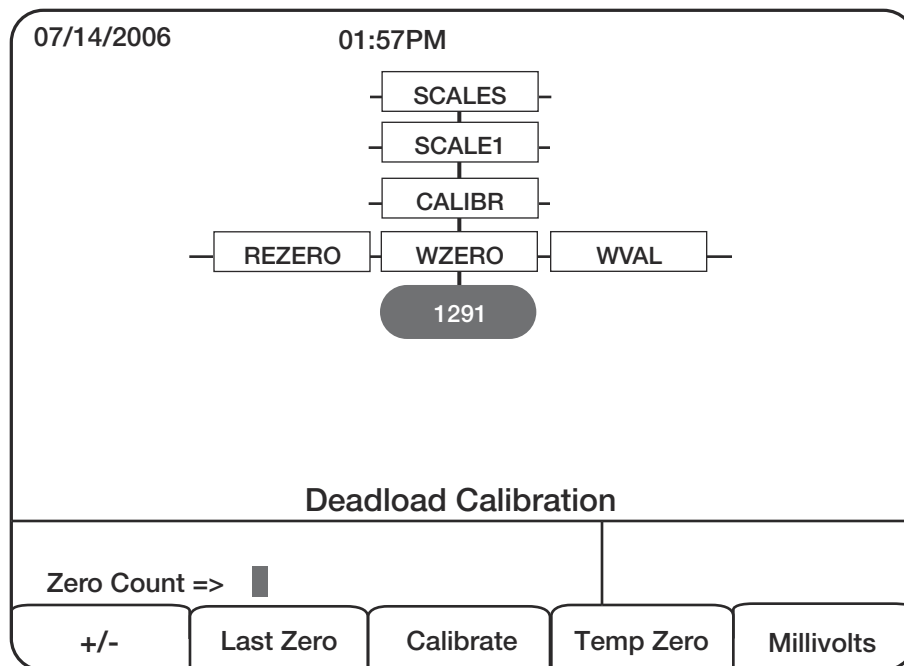

Figure 3-6. WZERO Calibration Display
The CALIBR submenu (under the SCALES menu, see Figure 3-6) is used to calibrate the 920i. The zero, span, and linear calibration point displays provide a set of softkeys used specifically for calibration procedures:
2. With the *SCALES* menu highlighted, press the **down** key, then select the scale to be calibrated. Press **down** again (*GRADS* parameter highlighted), then press **left** to highlight the *CALIBR* submenu. Press **down** to go to zero calibration (*WZERO*). See Figure 3-6 on page 30.